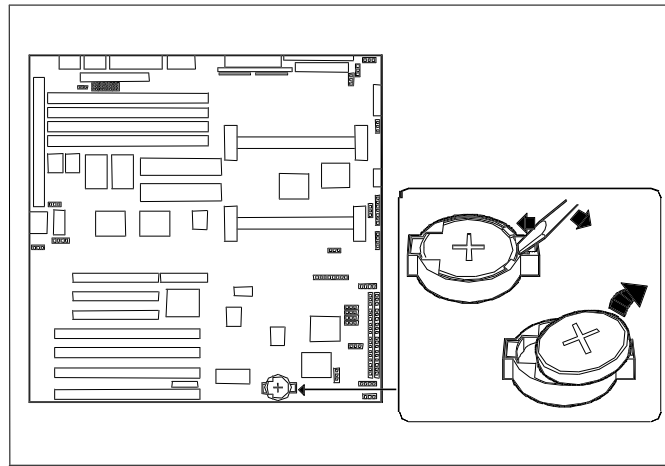

Figure 4-3 Replacing the Real-Time Clock Battery
You may need to replace the non-volatile memory because of its internal integral lithium battery life span. Contact your sales representative or dealer for a list of approved devices. Its located on your system board as shown in Figure 4-3. Notice the dot on the chip. This dot will assist you in correctly positioning the chip on the system board.
2. Using your finger nail or a small pointed tool, gently push down the top of the battery and pry up the battery out of its socket. Refer to Figure 4-3 for the socket location.